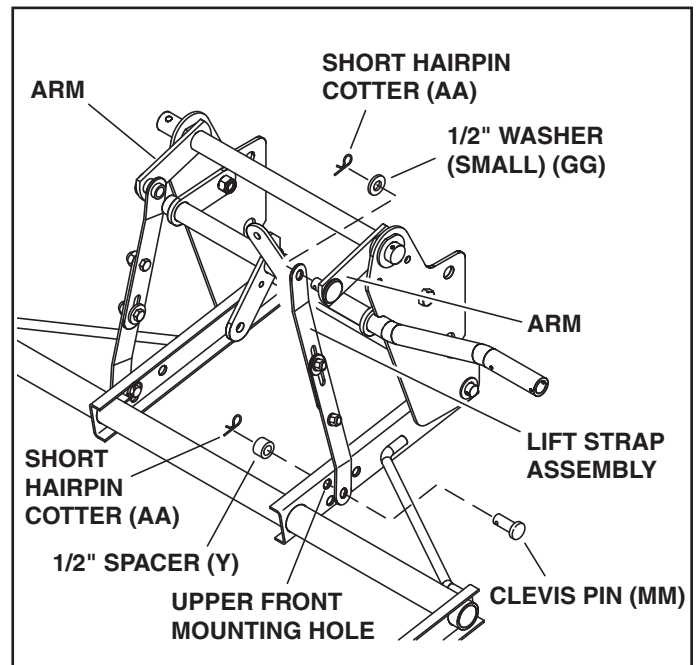

FIGURE 5 Bucket removed for clarity
STEP 6: INSTALL LIFT STRAP ASSEMBLIES (SEE FIGURE 5)
- Turn the lift strap assemblies as shown. Install each lift strap assembly to an arm of the lift bracket assembly and then secure with a small 1/2" washer (GG) and a short hairpin cotter (AA).
- Position the lower end of each lift strap assembly to the outside of the lift frame. Fasten to the upper front holes in the lift frame using a clevis pin (MM), 1/2" long spacer (Y) and short hairpin cotter (AA) for each assembly.